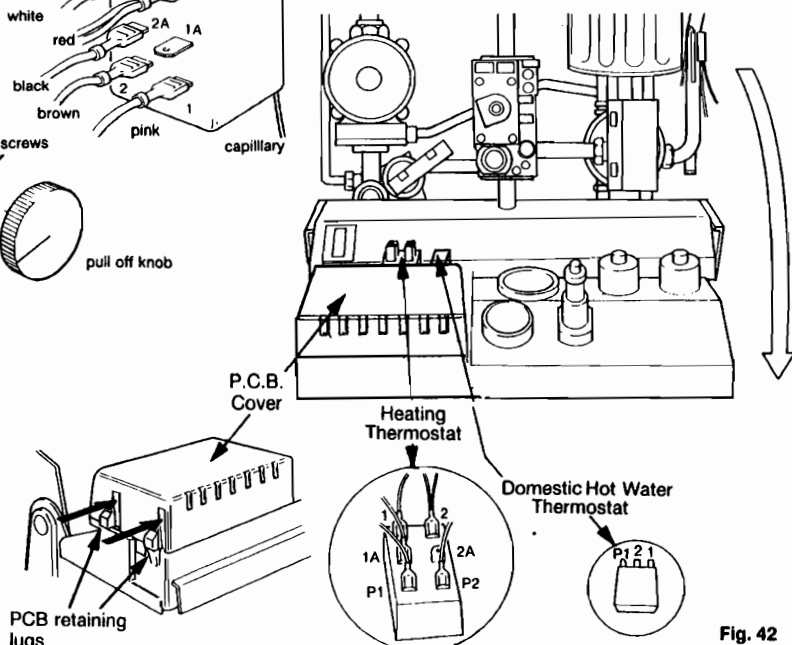

Fig. 42
Refer to figs 42 & 43
8.22.24 Refer to figs 42 & 43 to ensure correct location of thermostat and push-on wiring tabs.
Refer to figs. 42 & 43
8.22.32 Refer to fig. 42 to ensure correct location of thermostat and push on wiring tabs. Orange wire to terminal P1
Refer to fig. 42
8.22.39 Press in the sides of the printed circuit board cover (fig. 42) to release retaining clips and lift cover off.